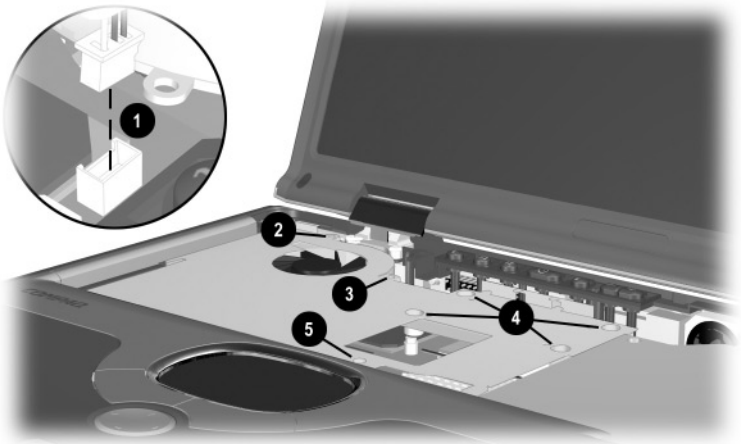

Figure 5-20. Removing the Heat Spreader Screws
4. Disconnect the fan cable ❶ from the system board (Figure 5-20).
- ❑ One TM2.5 × 5.0 screw ❷ next to the fan
- ❑ One TM2.5 × 5.0 screw ❸ that secures the display video cable ground loop
- ❑ Four spring-loaded TM2.5 × 14.0 shoulder screws ❹